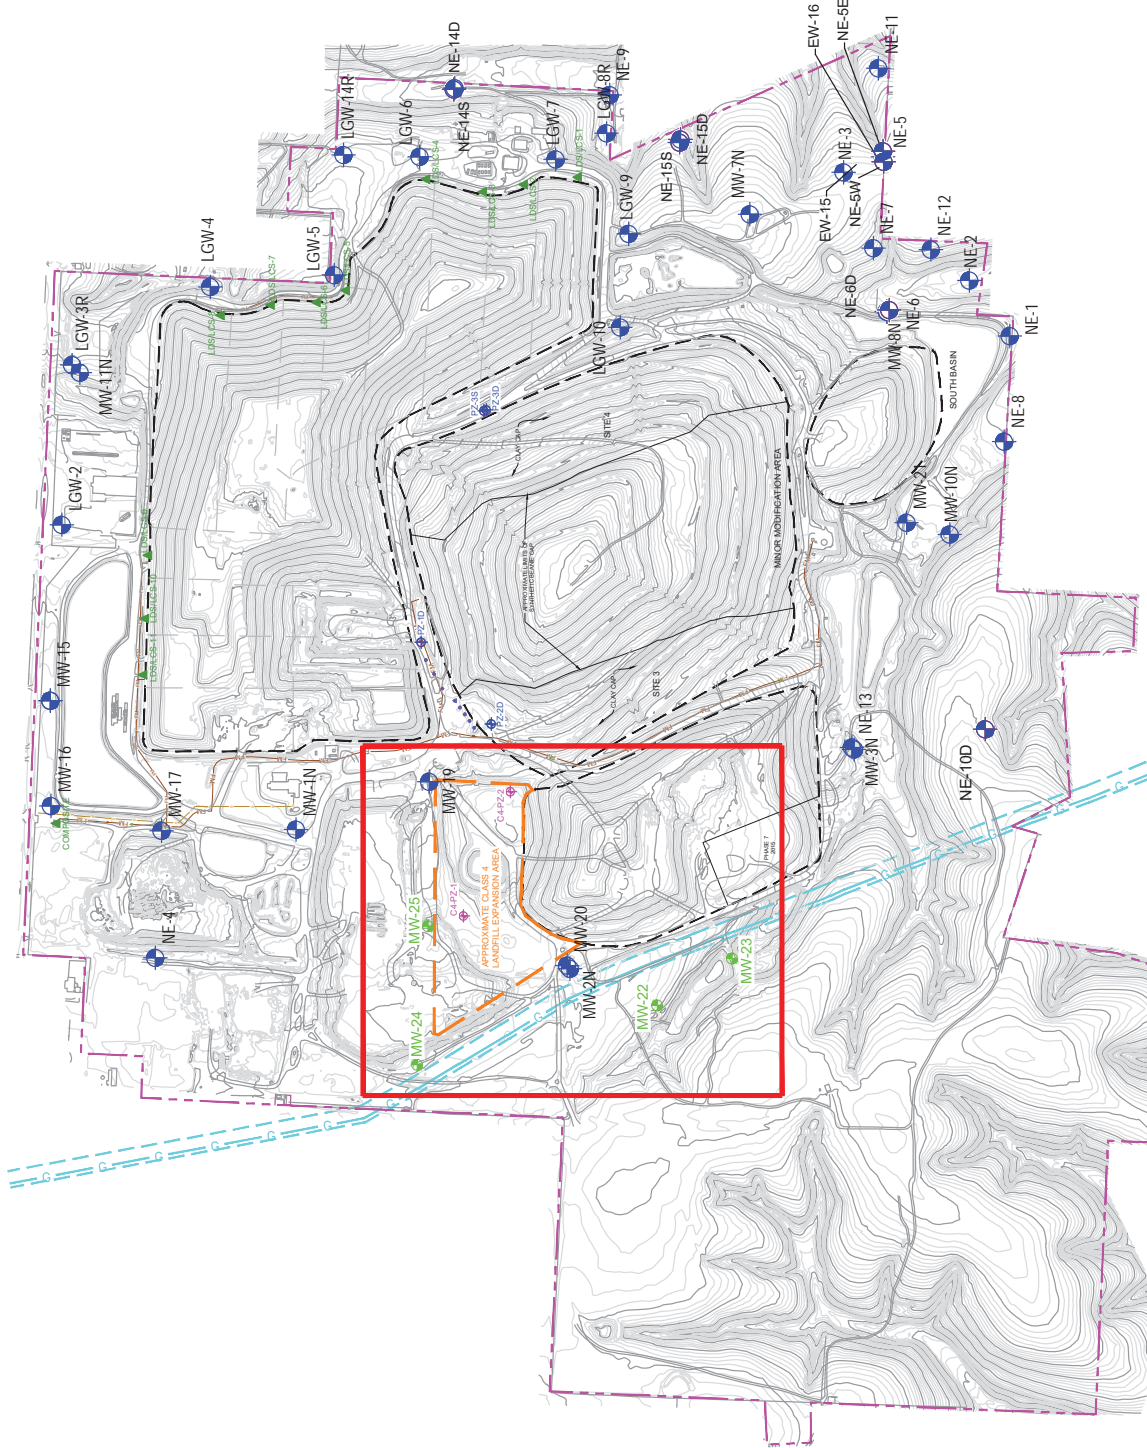

Figure 1
Per Condition No. 16 of the Class 4 Landfill Permit, a Work Plan shall be submitted for ADEQ approval for the installation of four additional groundwater monitoring wells near the Class 4 Landfill. Two wells should be located between current monitoring wells MW-20 and MW-3N and two monitoring wells should be located to the north and northwest of the new Class 4 expansion area. **Figure 1** displays the proposed locations of the four additional groundwater monitoring wells (MW-22 through MW-25).
*Attachments: Figure 1 – Site Layout & Proposed Well Locations